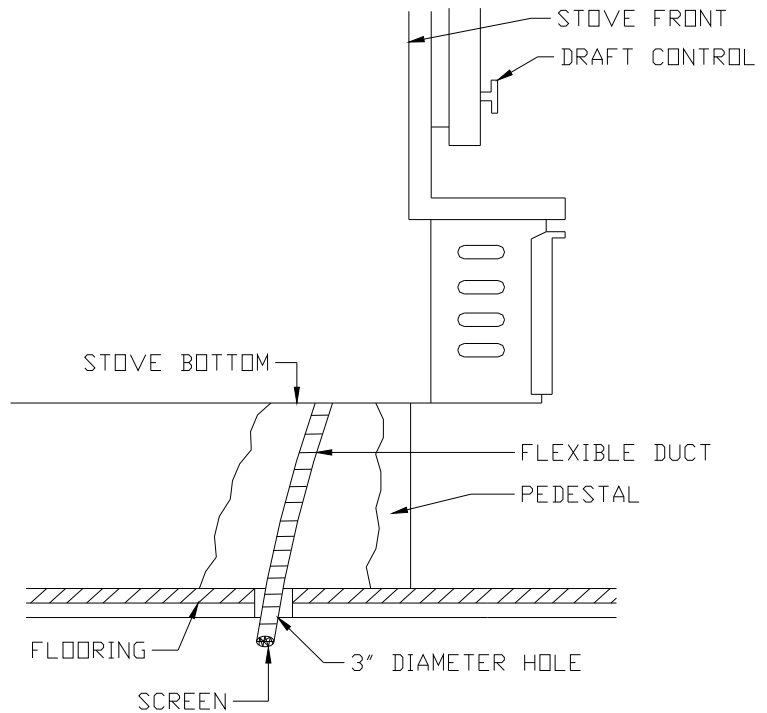

FIGURE 11
- (A) The structural integrity of the mobile home floor, wall, and ceiling/roof must be maintained throughout the installation.
- (B) DO NOT install the model 30 CD stove in a sleeping room.
- (C) Be sure to provide means for the secure installation of the stove to the floor of the mobile home.
- (D) Stove pipe used to connect the stove to the chimney or flue MUST BE double-wall insulated pipe, or equivalent, NOT single wall pipe.
- (E) A source of external combustion air must be provided using the optional mobile home installation kit.
- (A) Position the pedestal on the floor protector where the stove will be installed.
- (B) Mark and cut a 3" diameter hole through the floor protector and flooring materials for the installation of the flexible duct.
- (C) Attach the flexible duct to the air pipe opening, then attach the pedestal to the bottom of the stove. (FIGURE 11)
- (D) Proceed with the normal freestanding installation.